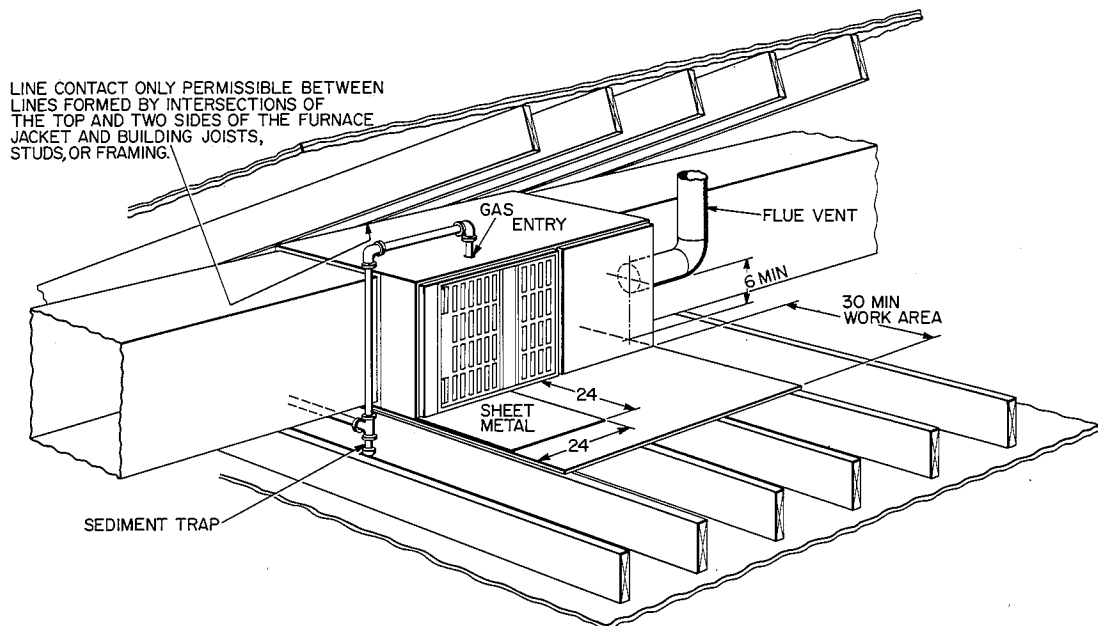

Fig. 7—Typical Attic Installation
The furnace can be installed horizontally on either the left (LH) or righthand (RH) side. A typical attic installation is shown in Fig. 7.
1. Construct working platform on location where all required furnace clearances are obtainable. (See Table 1 and Fig. 7.)
2. Connect gas supply pipe; see Fig. 7 for typical piping connections.
- b. Install 24- x 24-in. sheet metal shield on platform in front of louvered control panel, as shown in Fig. 7.